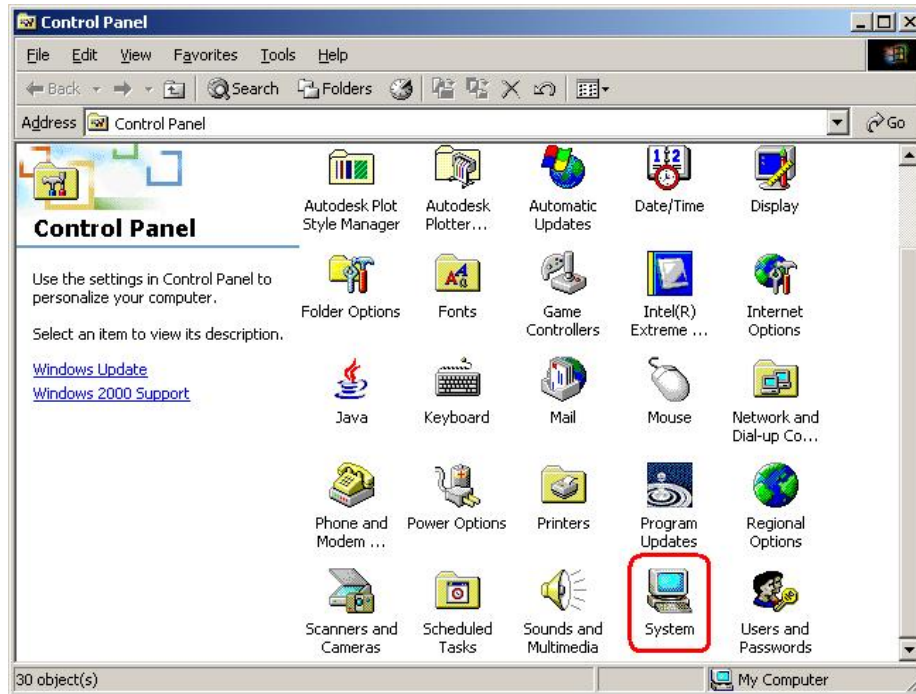

Figure 7-37: Double Click the System Icon
Step 2: Double click the **System** icon (Figure 7-37).